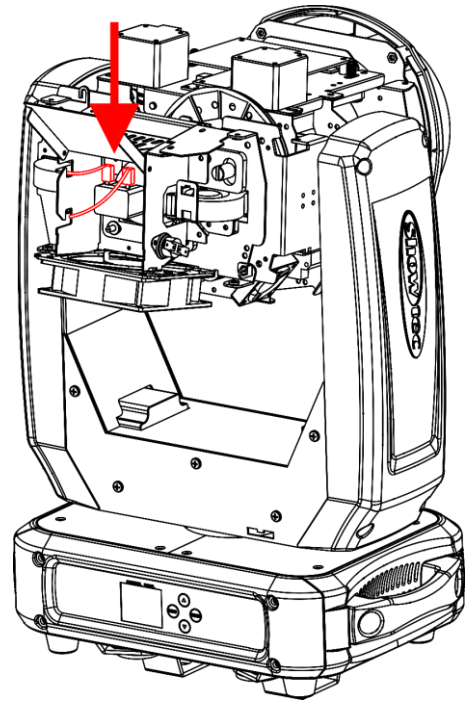

Fig. 20
- 04) Disconnect the 2 wires from the lamp terminals (Fig. 20).